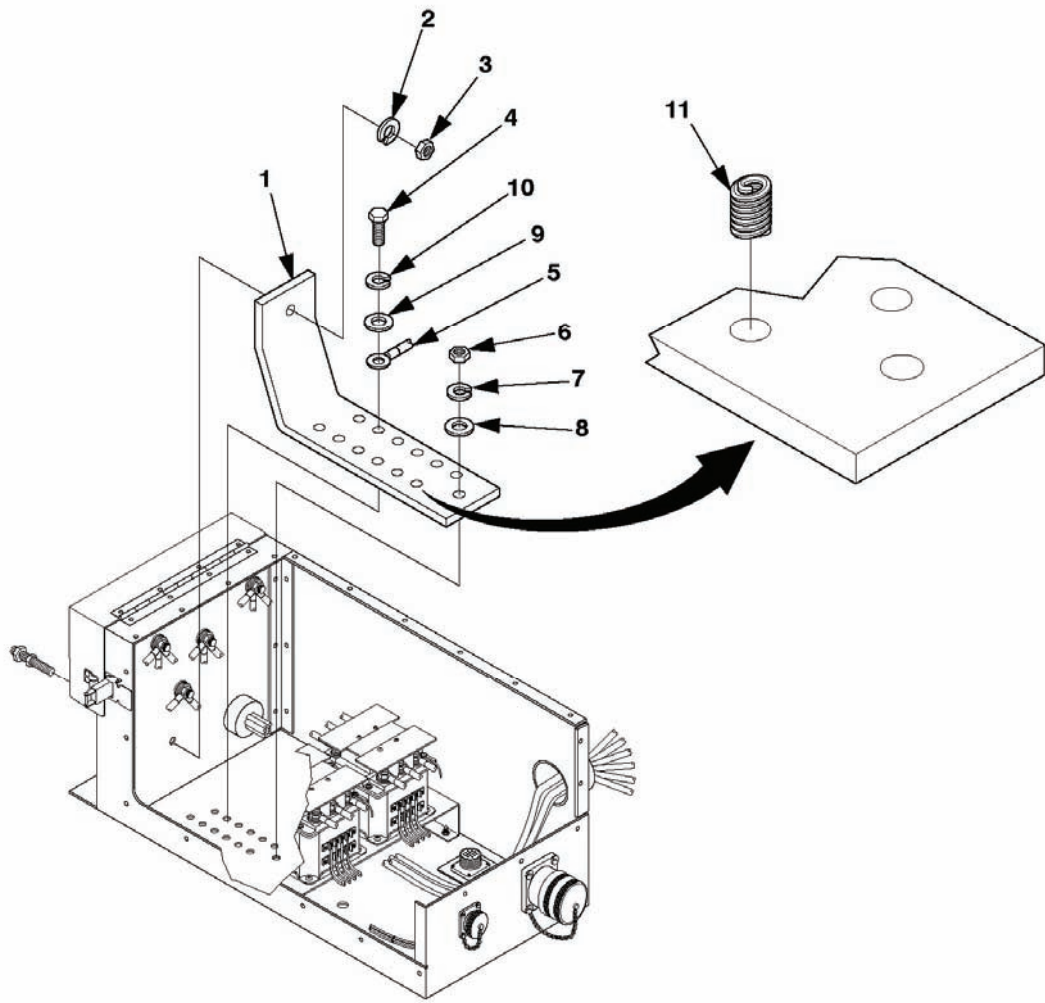

Figure 5-13. Bus Bar Maintenance (A Model).
4. Remove cap screws (4, figure 5-13), lock washers (10), flat washers (9), and electrical leads (5) from bus bar (1). Discard lock washers (10).
5. Remove nut (3) and lock washer (2).
6. Remove nut (6), lock washer (7), and flat washer (8). Discard lock washer (7).
7. Remove bus bar (1).
1. Position bus bar (1, figure 5-13) in place.
2. Install flat washer (8), new lock washer (7), and nut (6).